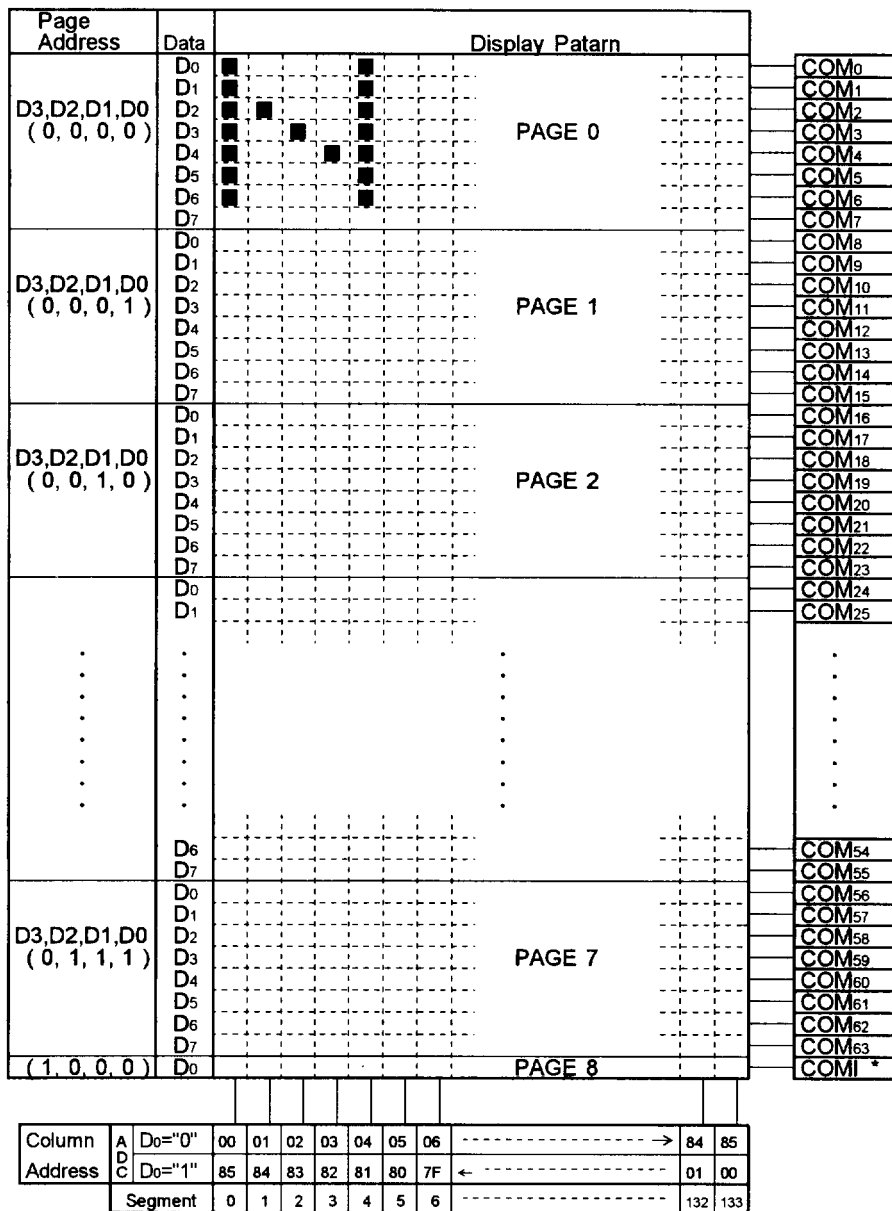

Fig.1 Correspondence with Display Data RAM and Address
The column address counter is 8-bit presentable counter which addressing the column address as shown in Fig. 1. This counter increments (+1) up to (85)H when the Display Data Read/Write instruction is executed. The count up is stop at (85)H, do not count up non existing address of over than (86)H by the count lock function. This count lock is released by new column address set. Furthermore, this counter is independent with the Page Register.
This register gives page address of Display Data RAM as shown Fig. 1. When the MPU access the data by changing the page, the page address set instruction is required. Page address "8" (D3="H" D2, D1, D0="L") is Icon RAM area, the data only for the D0 is valid.
The relation between column address and segment output can inverse by the Address Inverse Instruction ADC as shown in Fig. 1.